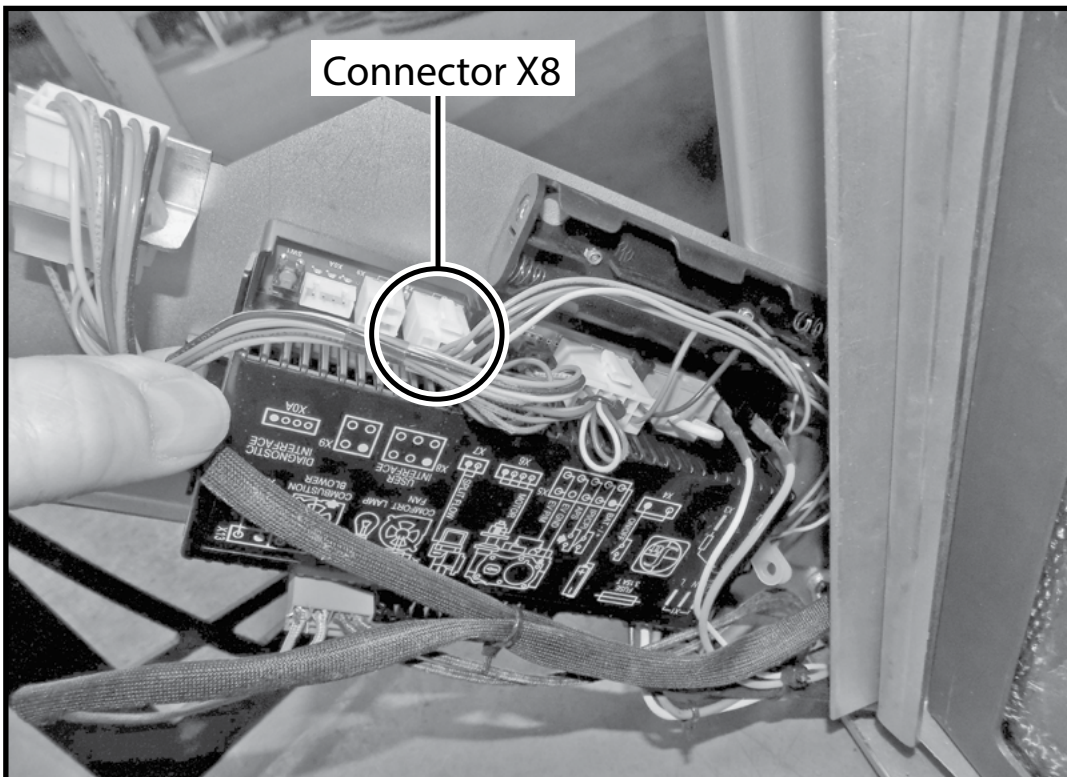

Figure 105: SIT manual switch connection at SIT module.
1. Check that the ON/OFF Switch cable is plugged into the SIT module (jack X8) as shown in Figure 105.